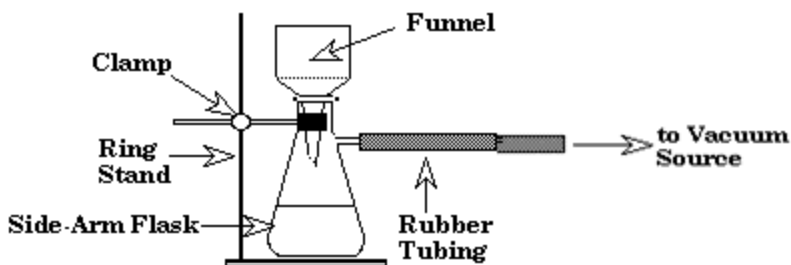

Figure 1: Vacuum Filtration Apparatus
14. ☐ Set up the vacuum filtration apparatus as shown in Figure 1, if it is not already set up in the classroom.